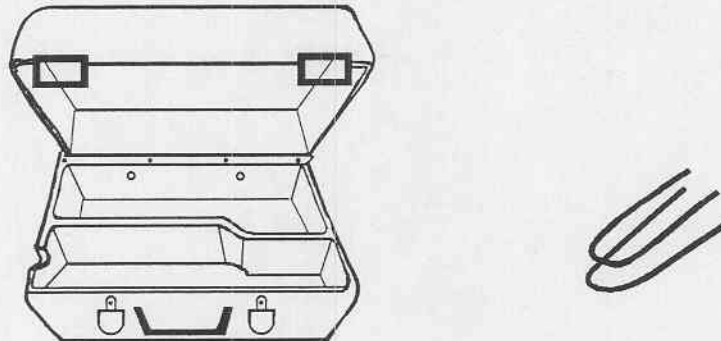

Figure 2-5. D-rings and straps.
- c. Thread the straps through the D-ring fasteners (fig 2-5) (located near the lower front and back of the case) and secure the suction apparatus.